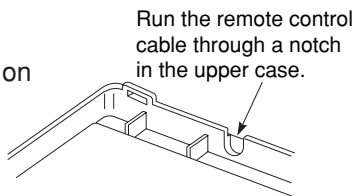
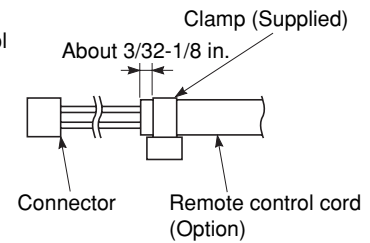

Fig. 7-15
Fig. 7-16
- (2) The wire routing at the signal receiving unit comes out of the upper case (thin portion at upper center) so use nippers or a similar tool to cut out a notch beforehand large enough for the remote control cable (option) to pass through as shown in Fig. 7-15.
- (3) Remove the wire, which is connected prior to shipping, from the connector.
- (4) Connect the remote control cable (option) to the signal receiving unit connector as shown in Fig. 7-16 after the clamp (supplied) with the unit is installed.